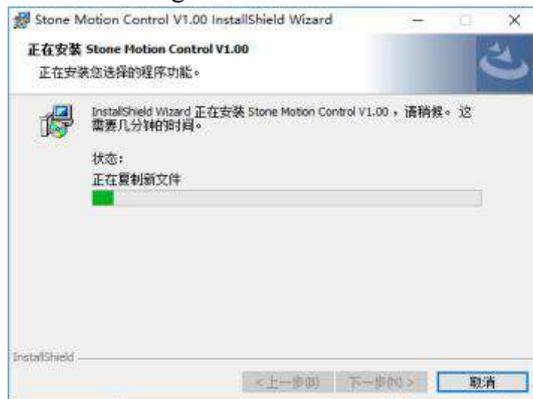

Figure 6-5 Installing
6. Click “**Next**”, and click “**Finish**” after the setup is finished to exit the setup interface and complete the setup, as shown in Figure 6-5.